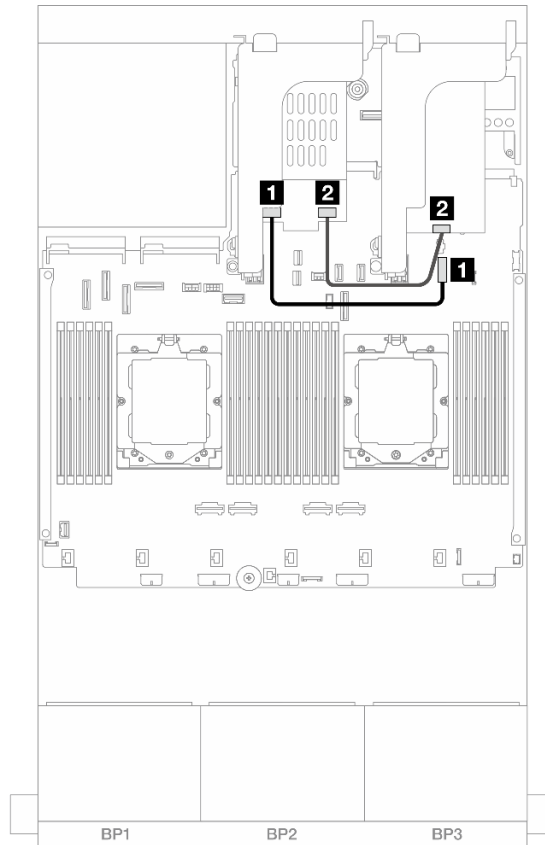

Figure 323. RAID cable routing
- Figure 323 “RAID cable routing” on page 371